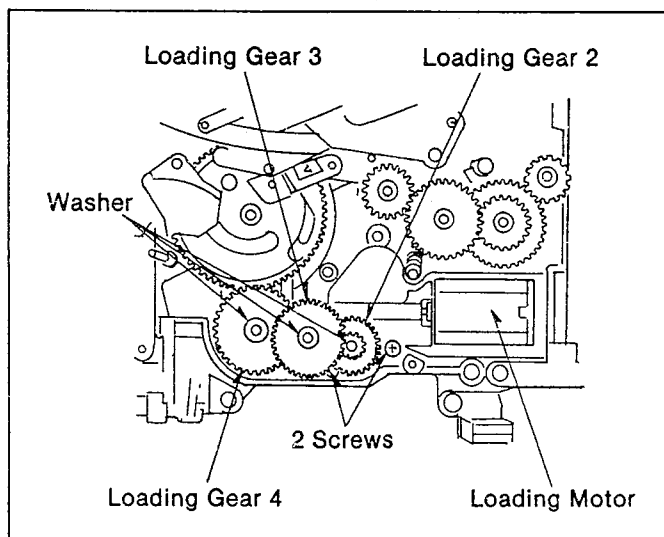

Fig. M27
- (1). Install the Loading Motor Unit and tighten the 2 Screws as shown in Fig.M27.
- (2). Install the Loading Gear 4 as shown in Fig. M27.
- (3). Insert the washer and then install the Loading Gear 2.
- (4). Insert the washer, then install the loading Gear 3.